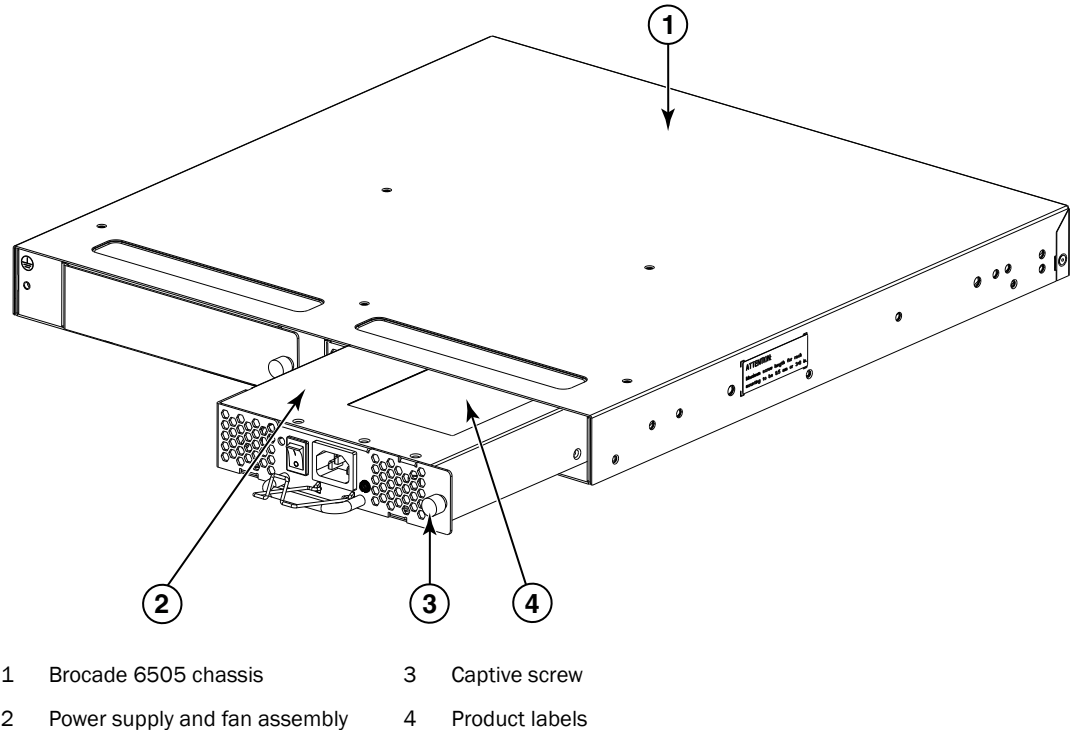

FIGURE 8 Inserting the power supply and fan assembly into the switch
Refer to Figure 8 for this procedure.
2. Orient the new power supply and fan assembly with the captive screw on the right, as shown in Figure 8.